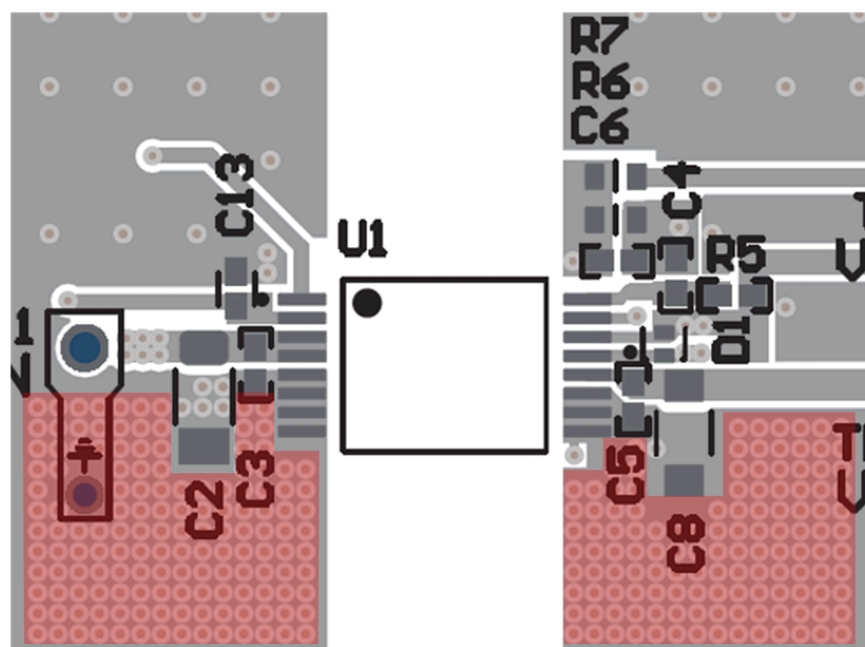

Figure 3-10. Thermal Vias
- f. A layout example is shown in Figure 3-10. For cases where less copper area is available, use as many thermal vias as the design permits, placed close to pins 5-8 (primary) and 9-11 (secondary).